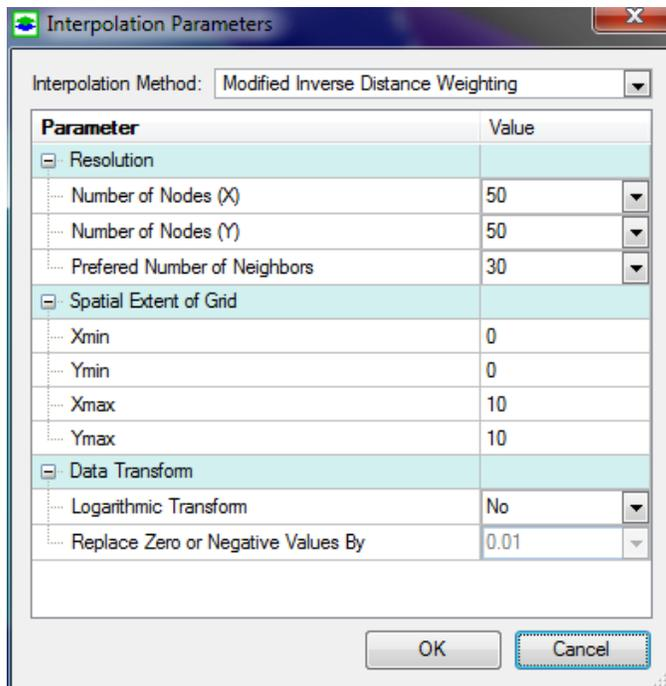

Figure 2.22. The Interpolation Parameters dialog box
- *Interpolation Parameters*: To generate a contour map, Seer3D creates a rectilinear grid and then interpolates the measurement values to each grid node by using the parameters defined in the the *Interpolation Parameters* dialog box (Figure 2.22). You can click on the  button to open this dialog box that contains the following parameters:
- *Interpolation Method*: Currently, the *Modified Inverse Distance Weighting* method is available. This method is based on a paper published by Shepard [19] that improves the pure inverse distance weighting method by adding functions to (1) intelligently select nearby data points based on data density and distribution, (2) include direction factor in addition to the distance factor in the interpolation algorithm, and (3) include slope between data values in the algorithm.
- *Resolution: Numbers of Nodes (X) and Numbers of Nodes (Y)* directions define the resolution of the rectilinear grid. *Preferred Number of Neighbors* defines the number of neighboring data points of a grid node that should be used to